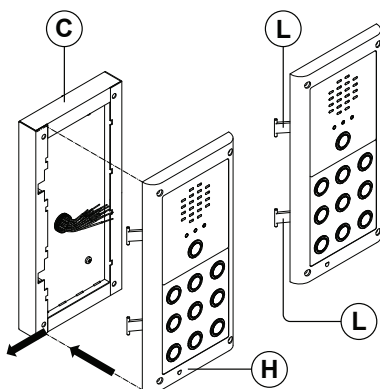
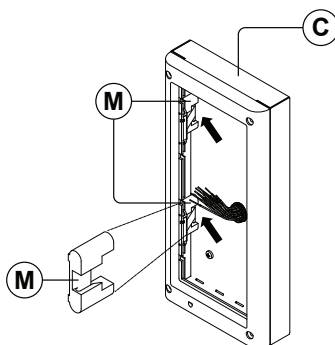

Fig. 52
Fig. 53
5. Next take the frame's hinges **(L)** and hook the module support frame **(H)** to the surface box **(C)**, starting from the left following the guide arrows, as shown in **Fig.52**. Ensure that the frame's hinges **(L)** (**Fig.52**) fit inside the relevant hinge mounts **(M)** inside the surface box **(C)**, following the guide arrows, as shown in **Fig.53**;